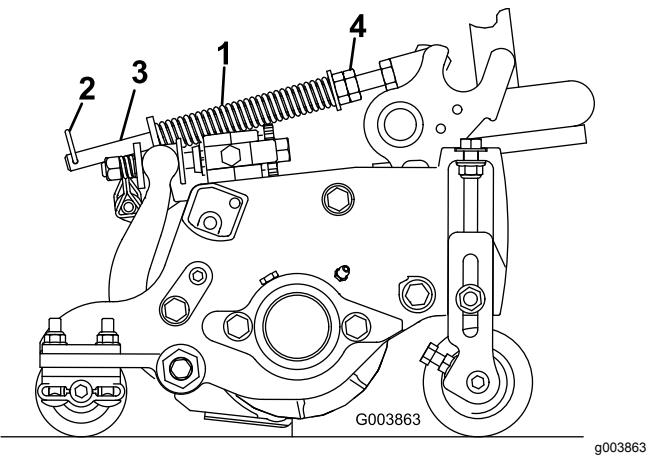

Figure 15
2. Tighten the hex nuts on the front end of the spring rod until the compressed length of the spring is 12.7 cm (5 inches) on Reelmaster 5410, 5 inch cutting units or 15.9 cm (6.25 inches) on Reelmaster 5510, 7 inch cutting units (Figure 15).
The turf compensation spring (Figure 15) transfers weight from the front to the rear roller. (This helps to reduce a wave pattern in the turf, also known as marcelling or bobbing.)
1. Make sure the hairpin cotter is installed in the rear hole in the spring rod (Figure 15).